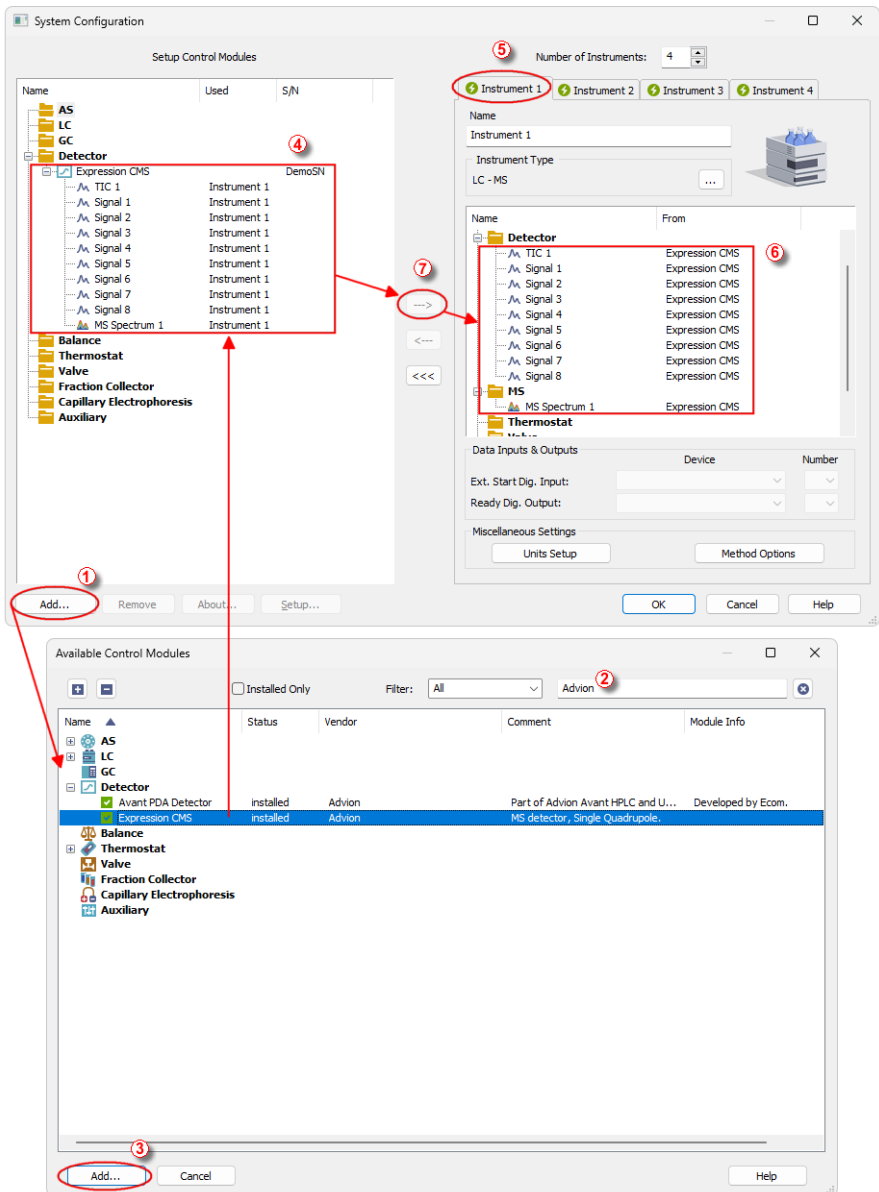

Fig. 2: How to add Advion Expression CMS
- Press the *Add* button ① (see **Fig. 2** on pg. 4.) to invoke the *Available Control Modules* dialog.
- You can specify the searching filter ② to simplify the finding of the driver.
- Select the **Expression CMS** and press the *Add* ③ button.